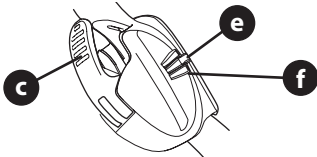

Figure 9
**IMPORTANT!** When locking the EZ-fold handle release lever (c) ensure the position indicator (e) aligns with one of three handle positions (f) (Figure 9).